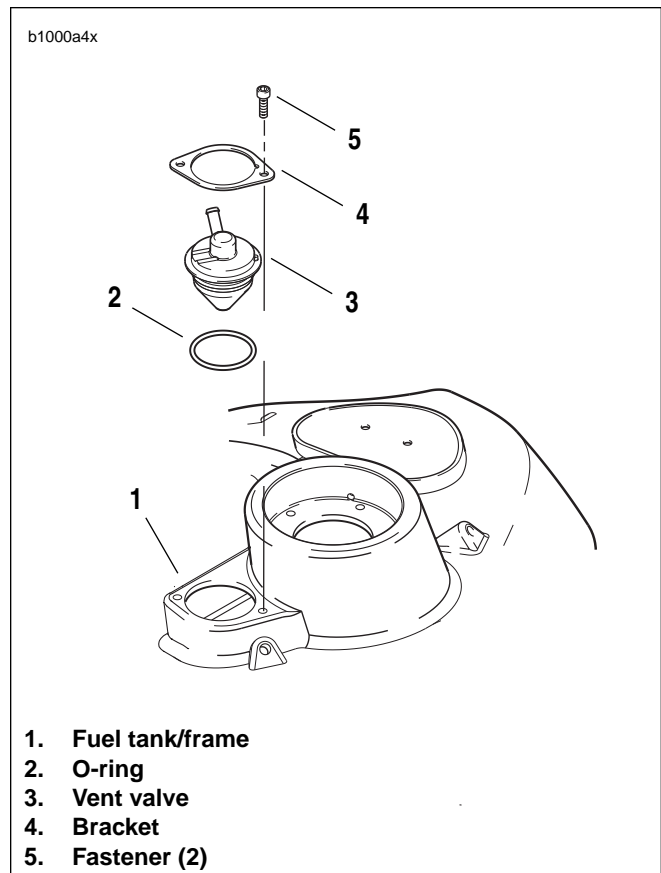

Figure 4-98. Fuel Tank Vent Valve
7. See Figure 4-98. Remove vent valve fasteners (5).
8. Remove bracket (4), vent valve (3) and o-ring (2) from fuel tank/frame (1).
1. See Figure 4-98. Install **new** vent valve o-ring (2).
2. Install vent valve (3) into fuel tank/frame. Vent valve nozzle should be at approximately the 7:00 position.
4. Loosely install vent valve fasteners (5).